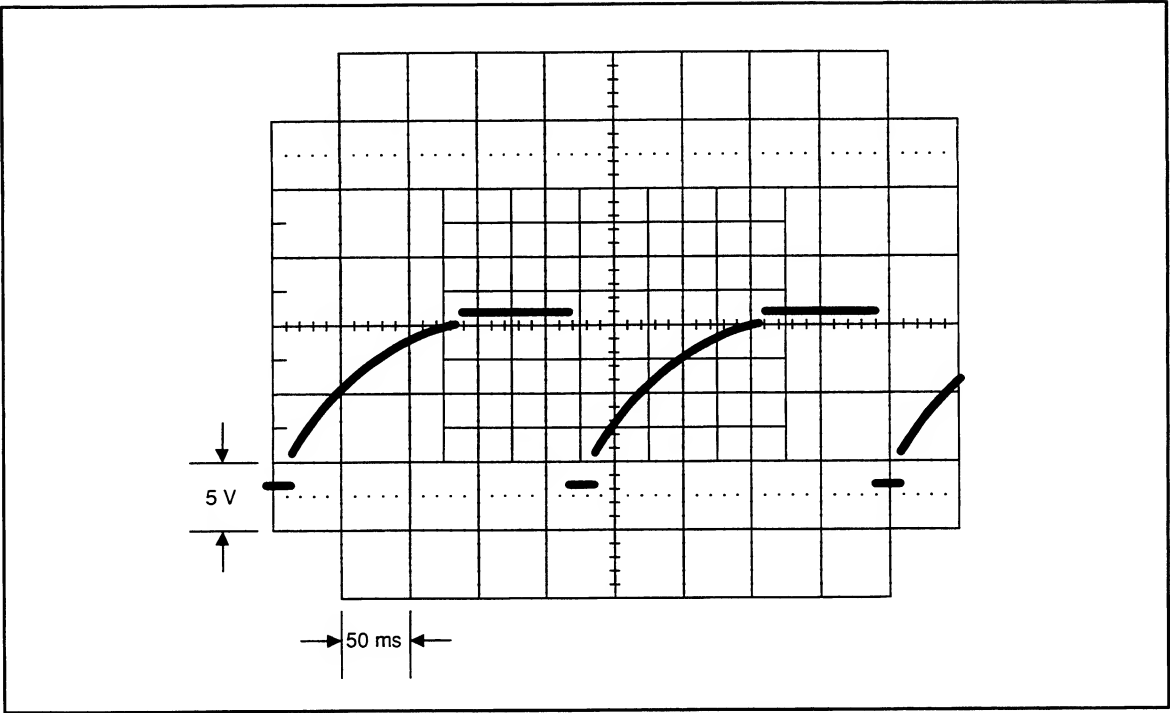

Figure 5-8. Waveform at U112, Pin 1, 3.5V DC Input
2. Verify the rms limit by applying +3.5V dc to INPUT on the 2.2V range. Use an oscilloscope to check the output of pin 1 of U112A with respect to the ac plate. The waveform should look like that in Figure 5-8.